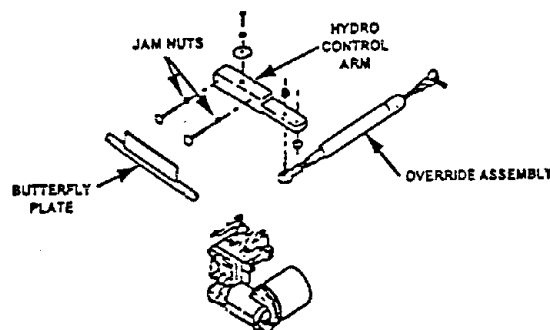

FIG. 9
- Adjust two 5/16 x 1-1/2" carriage bolts in the hydro control arm in or out until the head contacts the butterfly plate, and then tighten jam nuts (See Figure 9).